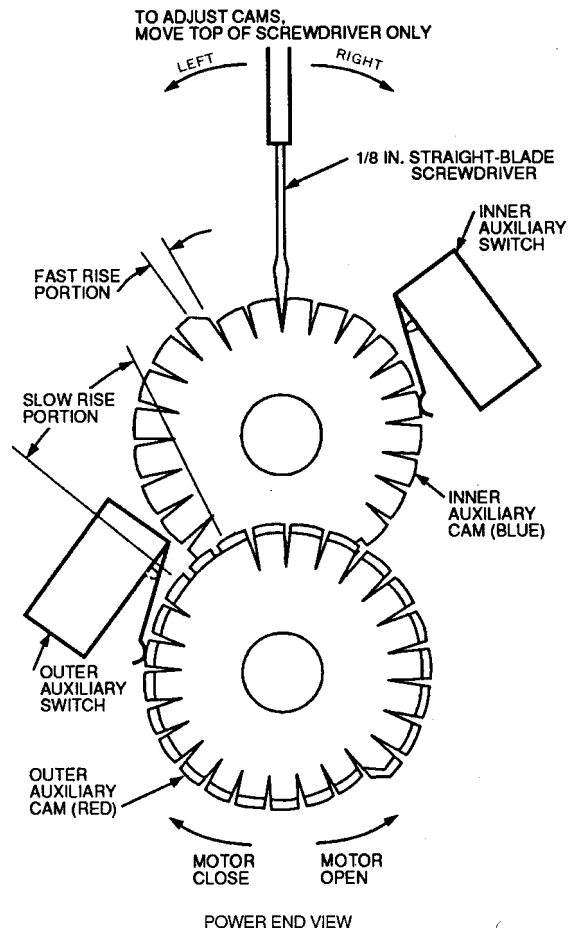

Fig. 40 — Auxiliary Switch Adjustment
4. Adjust auxiliary cam by inserting a 1/8-in. straight blade screwdriver into slot on cam and moving TOP of screwdriver to the right or left. See Fig. 40.